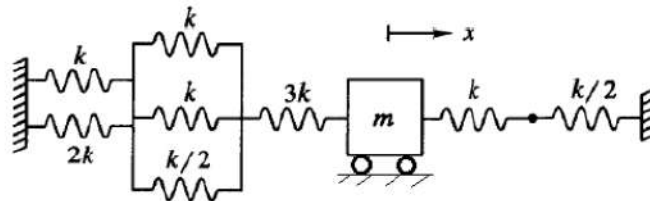

Fig. 1.
- a) Demonstrate how D'Alembert's principle can be applied for setting up the equation of motion of SDOF systems (4)
- b) Set up the equation of motion for the system shown in Fig 1 and hence determine its natural frequency (10)